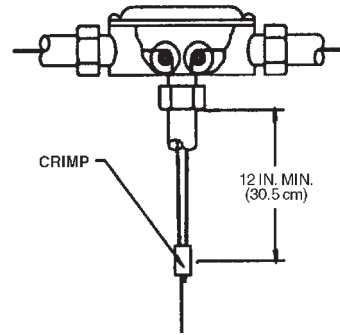

Figure 4-20. Tee Pulley Installation.
- The Pulley Tee is used to connect two (2) mechanical gas valves or two (2) remote mechanical pull stations to a single control head. The cable proceeding from the control head must always enter the branch of the pulley tee. See Figure 4-20.
- A pulley tee that is used to close two (2) gas valves can only be used to close gas valves with similar stem travel. Gas valves from 3/4 in. up to 1 1/2 in. can be used on the same pulley tee. A 2 in. gas valve can be used only with another 2 in. gas valve. Gas valves from 2 1/2 in. up to 3 in. can be used on the same pulley tee. As an example, using a 3/4 in. gas valve with a 3 in. gas valve will not allow the 3 in. valve to fully open.